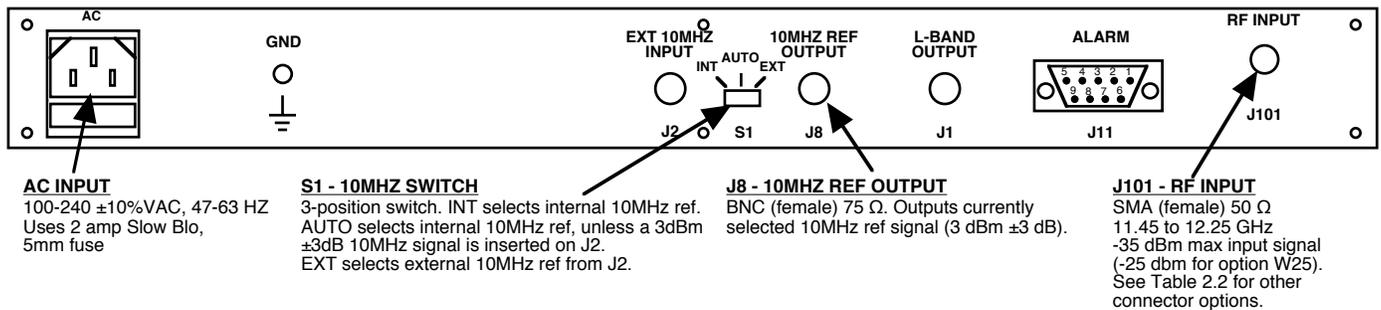

FIGURE 2.1 2116-114 Rear Panel I/O's
Figure 2.1 shows the input and output connectors on the rear panel.
1. Connect a -55 dBm to -35 dBm signal (-45 dBm to -25 dBm for Option W25) RF INPUT, J101 (Figure 2.1).
5. Select either INT (for internal 10MHz ref), AUTO (for internal 10MHz ref UNLESS an external 10MHz, 3 dBm signal is connected to J2), or EXT (for external 10MHz, 3 dBm ref that is inserted at J2) on rear panel switch S1 (Figure 2.1).
7. Check that a 10MHz, 3 dBm \pm 3 dB signal is present at the 10MHZ REF OUTPUT (J8) (Figure 2.1).